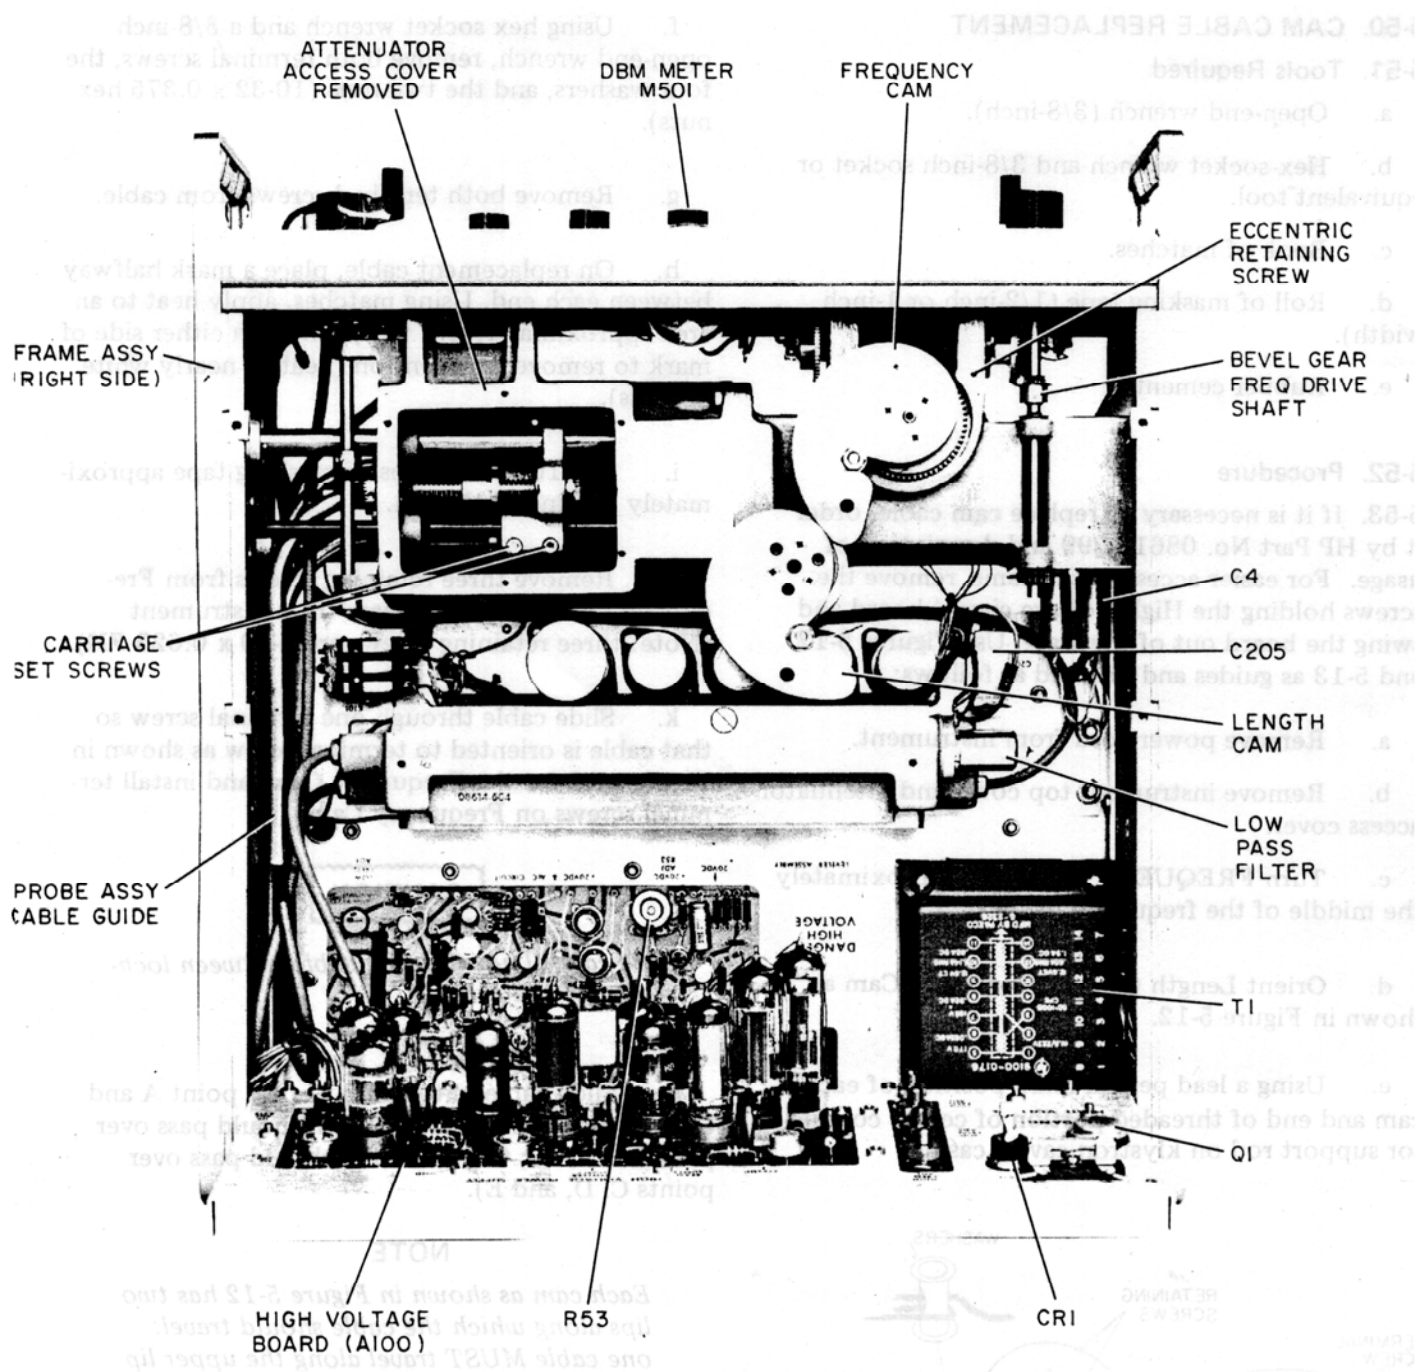

Figure 5-13. Instrument Top View, Cover Removed
- c. Remove Attenuator Access Cover from Klystron Cavity Casting (see Figure 5-13).
- Connect a clip-on milliammeter to wire on center feedthrough capacitor, C4 (wht/orn/vio wire, see Figure 5-13). Current must not exceed 30 mA unless klystron is defective.
e. Set actual frequency to 1000 MHz. Loosen spur gear on worm shaft and rotate gear until frequency dial reads 1000 MHz (see Figure 5-13).
f. Check FREQUENCY (MC) dial settings at both upper and lower ends of dial travel. The respective dial end points should be less than 800 MHz and greater than 2400 MHz. If dial travel is not satisfactory, loosen bevel gear on frequency drive shaft and reset dial.
2. If it is not, loosen the two setscrews in the attenuator drive shaft bevel gear (see Figure 5-13). With the bevel gear loose, turn the attenuator gear with your fingers until the output power is -11 dBm . Without disturbing the -11 dBm power setting, turn the attenuator knob on the front panel until the attenuator counter reads 012 dB. Tighten the two setscrews in the bevel gear.
2. If it does not, the RF UNCAL probe requires adjustment. The front right side panel should be removed, exposing the probe assembly cable guide. Remove the screw in the cable guide that is in line with the UNCAL probe retaining screw (see Figure 5-13). Insert a long Allen wrench through the hole left by removing the cable guide screw into the UNCAL probe retaining screw. Turn the retaining screw to adjust the UNCAL probe penetration for $-3 \text{ dBm} \pm 0.3 \text{ dBm}$ output.
2. If it is not, the ALC attenuator probe requires adjustment. The front right side panel should be removed, exposing the probe assembly cable guide. Remove the screw in the cable guide that is in line with the ALC probe retaining screw (see Figure 5-13). Insert a long Allen wrench through the hole left by removing the cable guide screw into the ALC probe retaining screw. Turn the retaining screw to adjust the ALC probe penetration for $120 \text{ mV} \pm 2 \text{ mV}$ at the ALC crystal output.